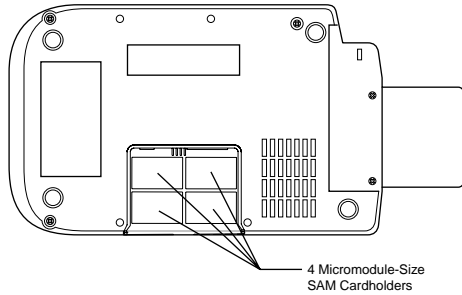

Figure 11 Micromodule-Size SAM (MSAM) Cardholders
5. Turn the terminal over (Figure 11) on a soft, clean surface (to protect the lens from scratches). The four MSAM cardholders are now accessible. Each cardholder consists of a hinged tilt-up cover attached to a connector base.